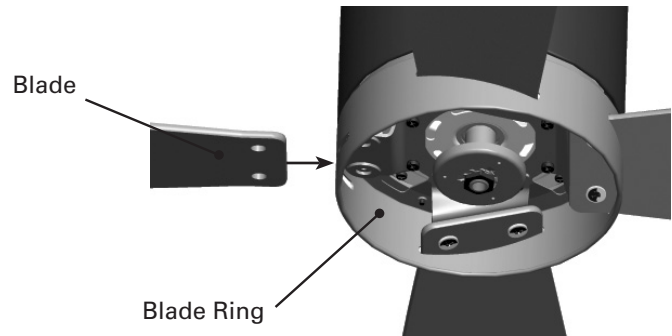

FIGURE 1.
Step 1. Slide the end of the blade with the two holes into the slot located on the blade ring as shown in Figure 1.